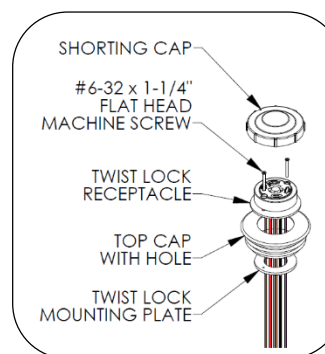

Fig. 5 – Install twist lock receptacle to top cap
6. Install the top cap on the pole (shipped with the pole). If the unit has a twist lock receptacle, assemble the receptacle and the top cap as shown in Fig. 5 and connect wiring before installing the top cap.